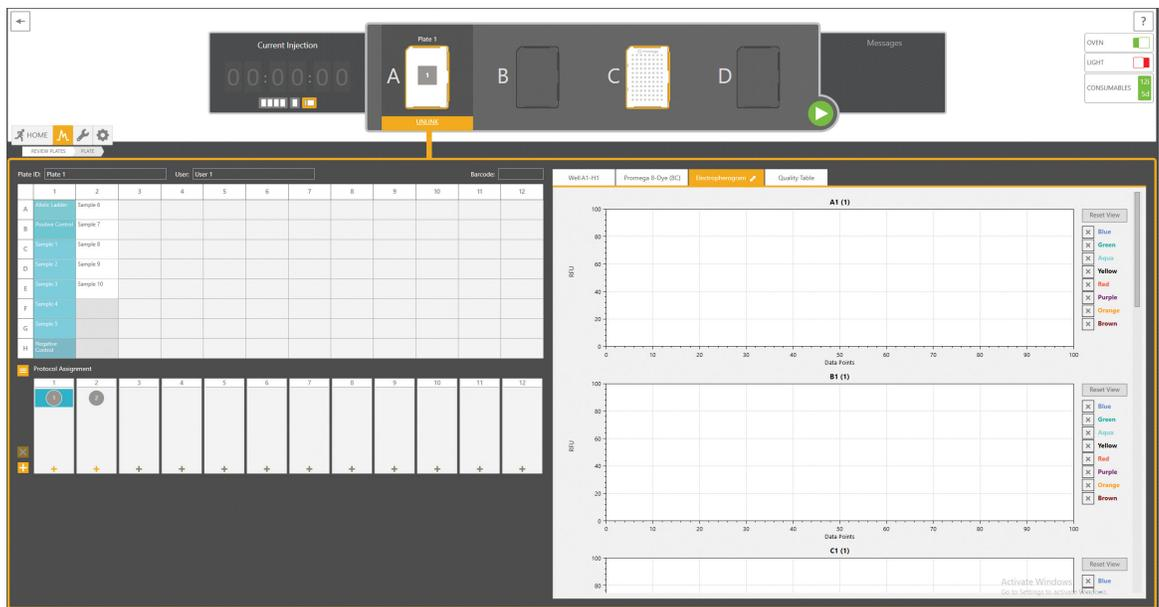

Figure 16. Linked plate in the Spectrum Control Software.
2. Open the draft plate record, then select **Link** in the Plate Position indicator under the position where the plate was placed. Once the plate is successfully linked, the text under the position will change status to **Unlink** and the Plate ID will appear above the position (Figure 16).